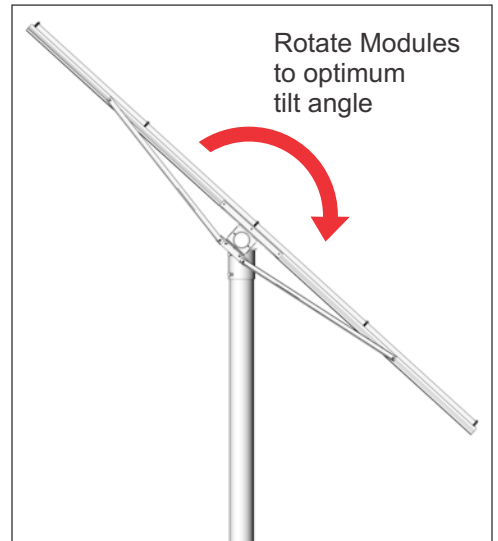

Figure 8-2: Adjusting Tilt Angle
- B. Tilt the PV Modules to the pre-determined angle and hold in place. (See Figure 8-2)